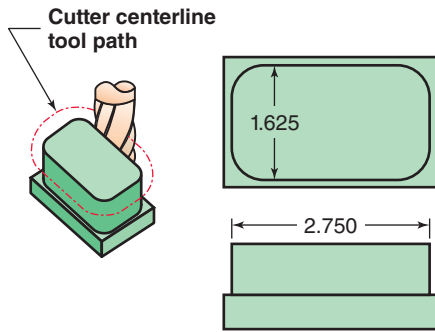

Figure 24-21 Compute the offset change needed.
2. See Fig. 24-21. After machining and measuring the profile of this object, the machinist finds the two dimensions to be 2.7536 and 1.6286 in. The program is a compensated cutter path that was written for a 0.500-in.-diameter cutter. What offset correction is needed?